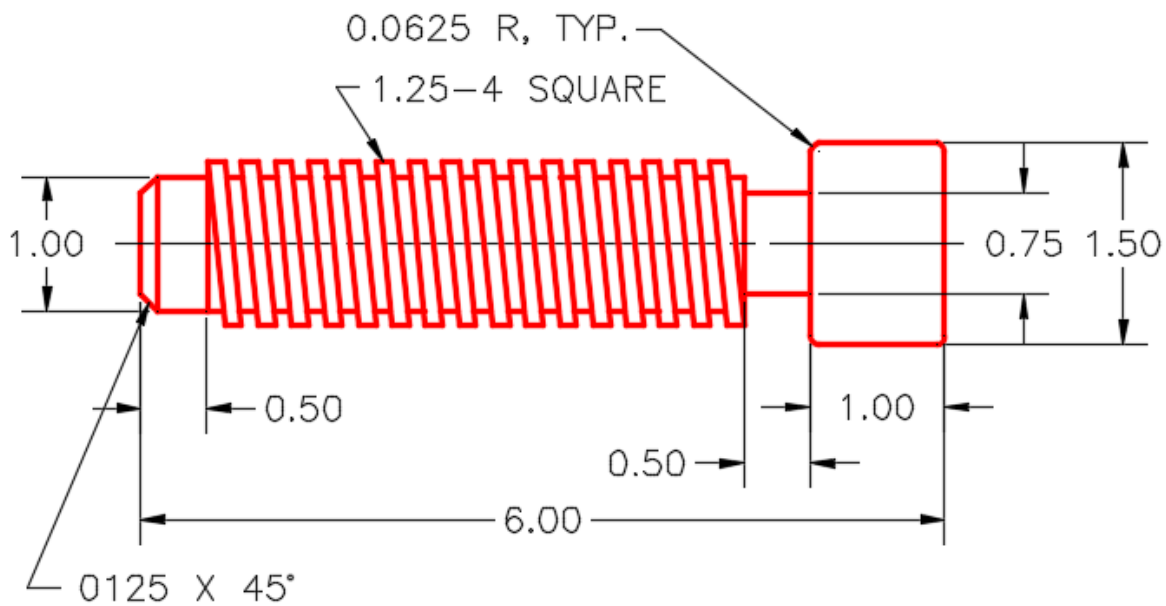

Figure Step 2A
Step 2 Save and name the drawing: AutoCAD 3D Workalong 23-2. (Figure Step 2A and 2B)